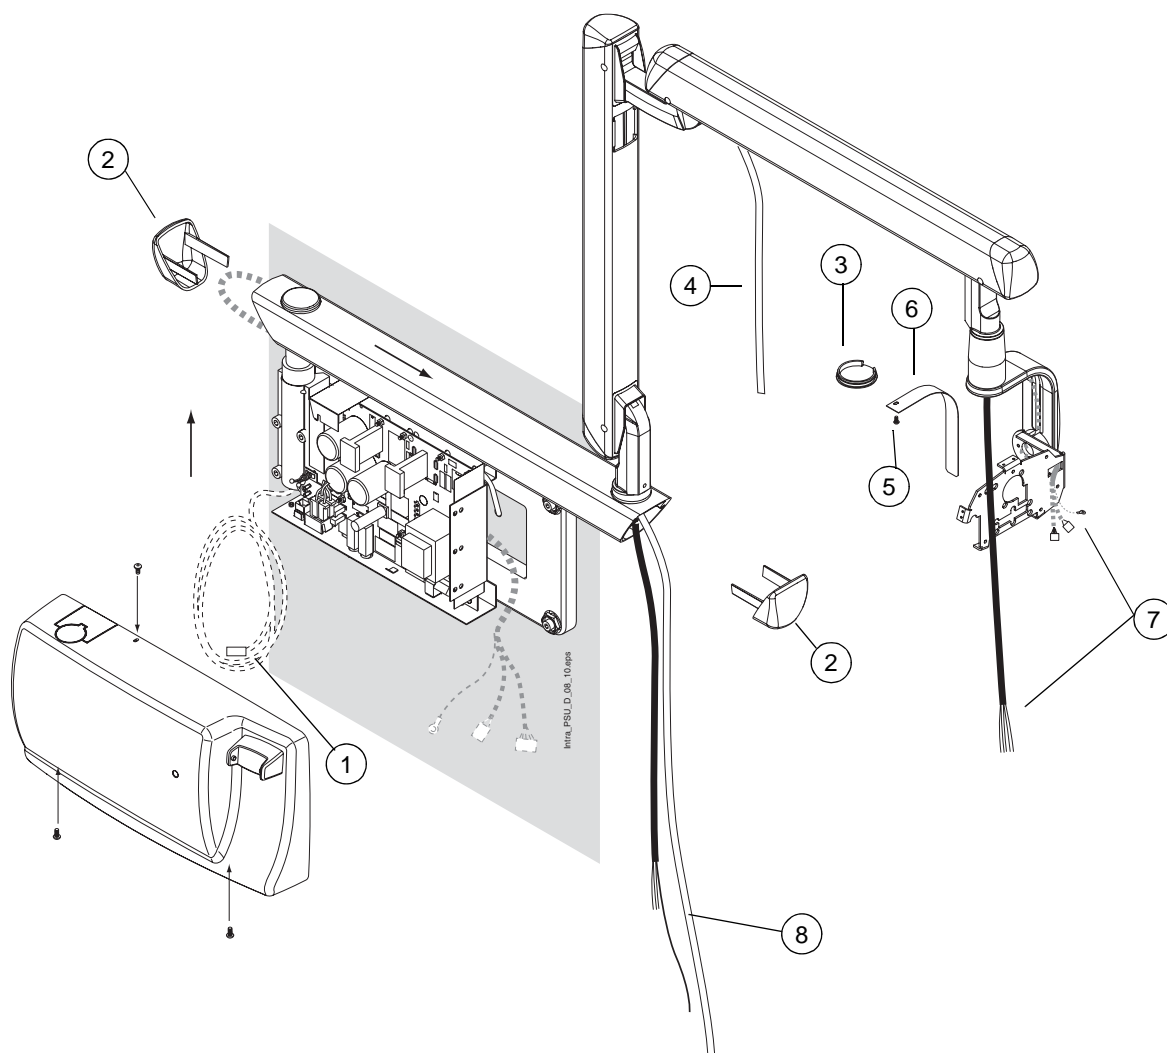

Figure 18
3. Disconnect the arm cable connectors from the Generator PCB (terminals P1 and P8). Detach the grounding lead of the arm cable. (figure 18, 1).
4. Remove the extension arm cover plugs (figure 18, 2).
6. Detach the plug of the tube head support (figure 18, 3).
7. Remove the cover plug from the bracket arm opening. Detach the Dixi interconnection cable from the Dixi control box OR pull the cable out from the bracket arm (figure 18, 4).
8. Unscrew the M3x6 ISO 7380 screw of the tube head support (figure 18, 5) and remove the cover plate of the tube head support (figure 18, 6). The plate is attached with double-sided adhesive tape.
9. Cut off the connectors from the tube head end of the arm cable push the cable through the support frame (figure 18, 7).
10. Cut off the connectors from the generator end of the arm cable and Dixi interconnection cable. The grounding lead should be left longer than the other leads (figure 18, 8).